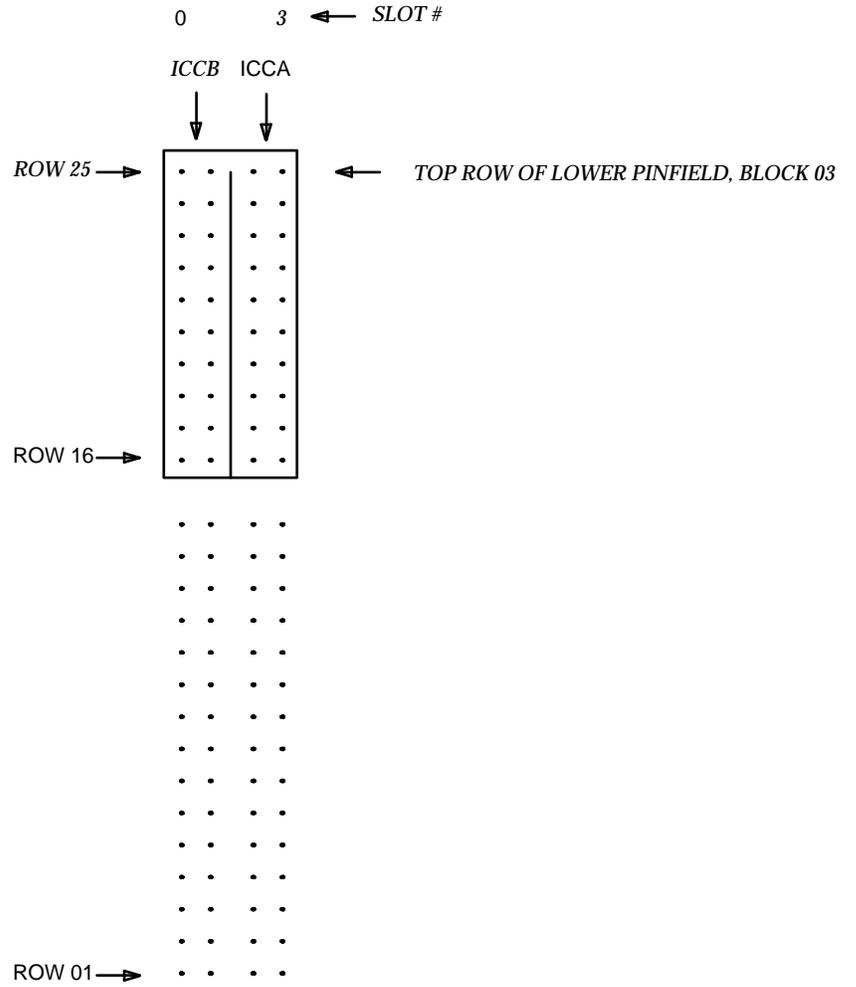

FIGURE 7-9. ICC Pin Block on J58890N
- 1. Install the ICC cables (ICC A and ICC B). They are connected to the “ICC” block on the control cabinet A and port cabinet B. The cable is installed so the dark stripe on the cable is on the bottom (see Table 7-A and Figures 7-9 and 7-10).